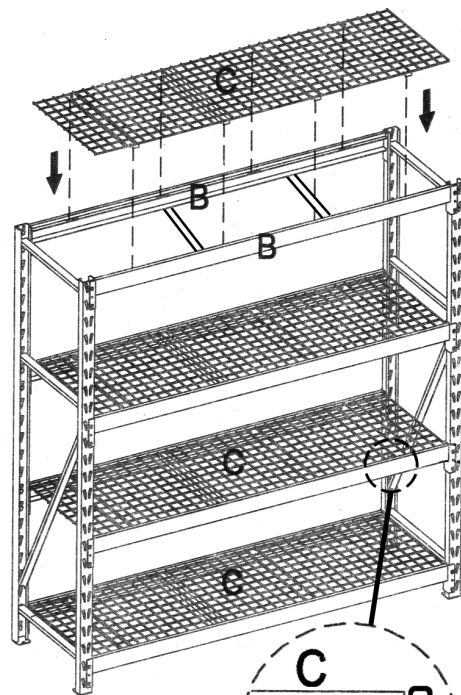

Fig.5
4.6 See Fig.5. Each wire deck 'C' is reinforced with four cross members welded onto the underside of the mesh. Each of these cross members has a turned down tab at either end that must pass through slots in the cross beams. Place a wire deck onto each pair of cross beams as shown below ensuring that it sits into the recessed section on the top surface of each cross beam and all tabs pass through the slots in the cross beams as shown in the inset diagram at the bottom of Fig.5.